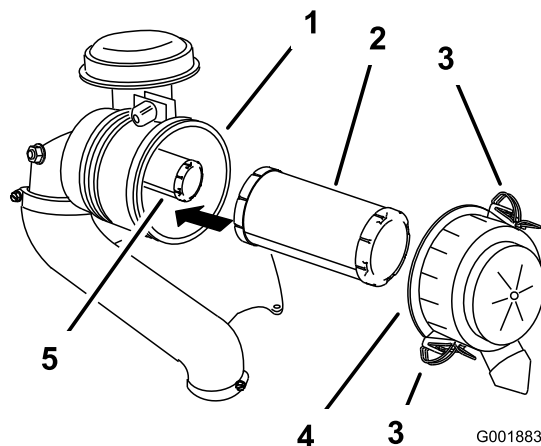

Figure 29
3. Release the latches on the air cleaner and pull the air-cleaner cover off the air-cleaner body (Figure 29).
5. Gently slide the primary filter out of the air-cleaner body (Figure 29).
2. If you are replacing the safety filter, carefully slide it into the filter body (Figure 29).
3. Carefully slide the primary filter over the safety filter (Figure 29).
4. Install the air-cleaner cover with the side indicated as **up** facing upward and secure the latches (Figure 29).